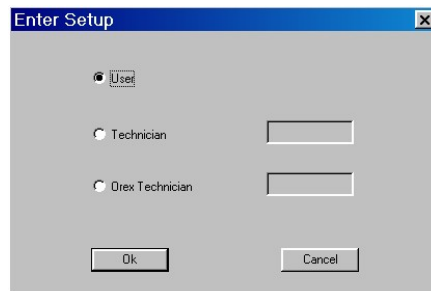

Figure 11: The Enter Setup Dialog Box
1. From the main interface, click the **Setup** button . The Enter Setup dialog box opens: (Figure 11).